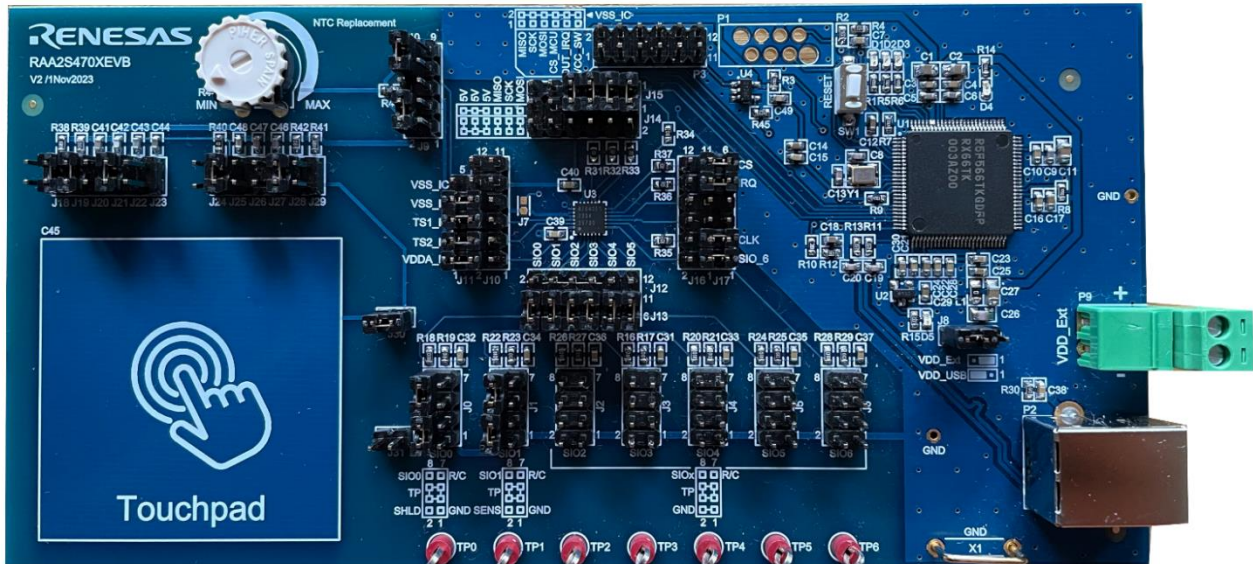

Figure 7. Example Circuit Connection
1. Set the jumpers as shown in Figure 7.